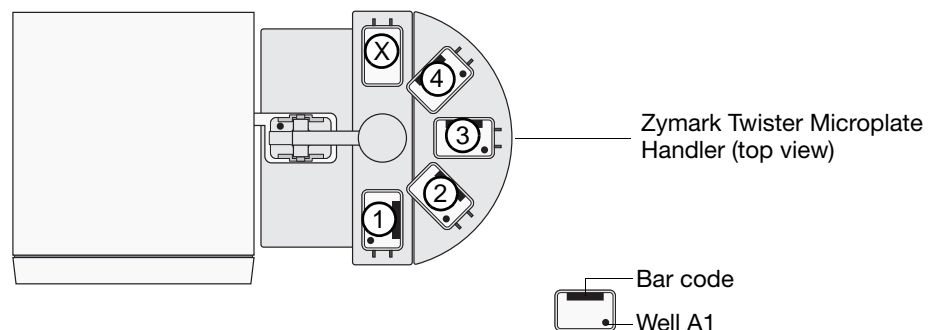

Figure 4-11 Plate Positions of the Zymark Twister Microplate Handler
- Orient the plates inside the stacks so that well A1 (●) of each plate corresponds to the locations shown in Figure 4-11.
- Do not place plates in the output stack (X). The Plate Handler arm uses the empty stack to store plates after it runs them.